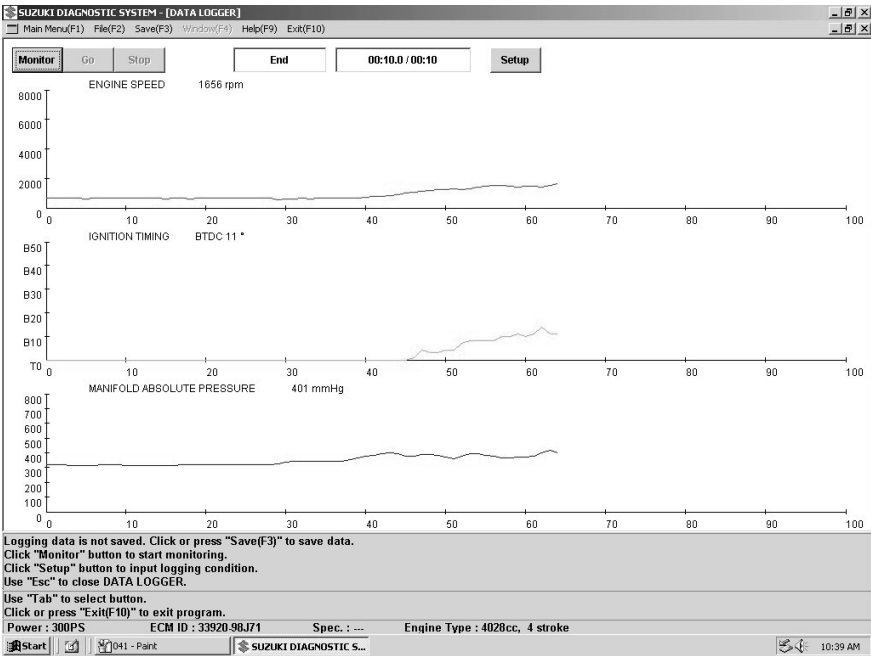

Fig.72
You can save logging data in the “csv” file format after logging has finished (executed). (Fig.72)
1. In the DATA LOGGER window (Fig.72), click the “Save(F3)” button (“F3” key on the keyboard). The COMMENT INPUT (DATA LOGGER) dialog box (Fig.73) appears. From this dialog box, type a comment into the Engine No., Boat Type, and Description fields and then click the “OK” button. To cancel logging data saving, click the “Cancel” button. (Keyboard) Move the cursor to the field in which to type a comment by using the “Tab” key. After typing the comment, move to the “OK” button by using the “Tab” key and press the “Enter” key to have the comment accepted.
1. In the DATA LOGGER window (Fig.72), click the “File(F2)” button (“F2” key on the keyboard).